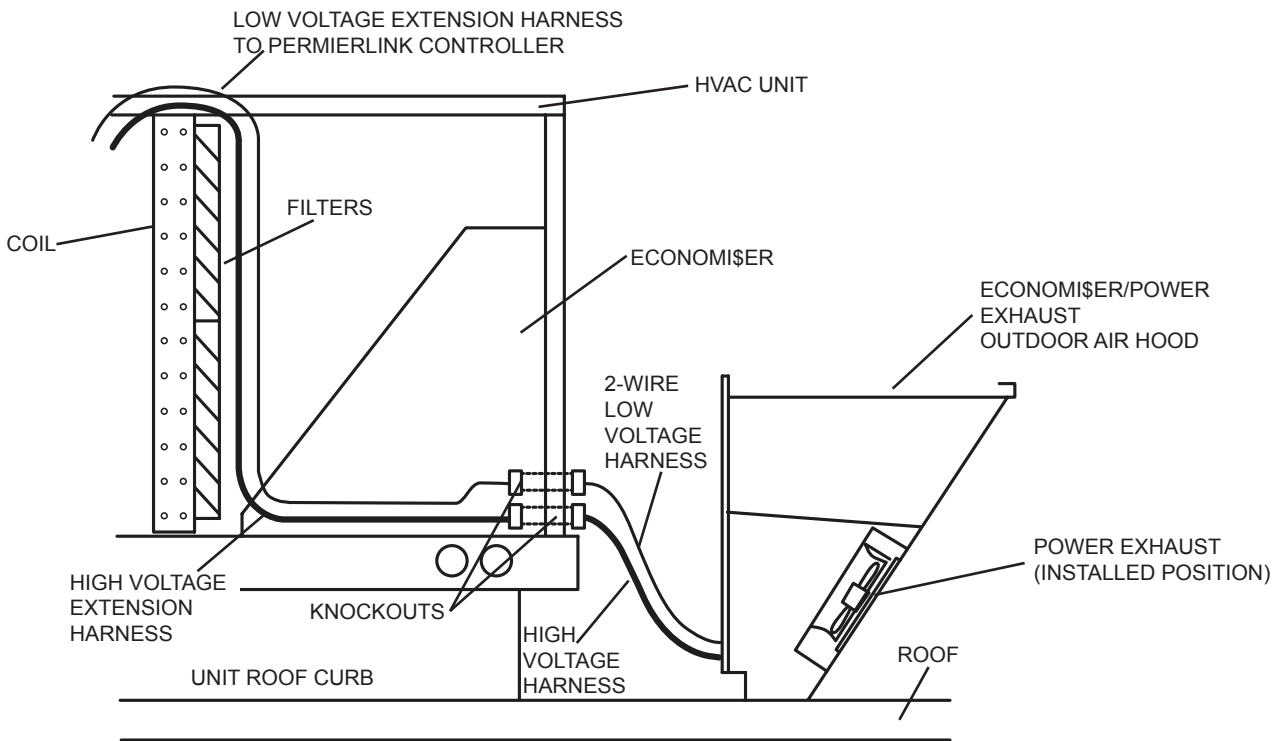

Figure 9 - Power Exhaust Harness Installation with EconoMiSer2 and PremierLink Controls
3. From the rear of the EconoMiSer2, connect the low voltage extension harness plug to the two-wire harness from the power exhaust. (See Fig. 9.)
4. Route the other end of the low voltage extension harness to the PremierLink controller. (See Fig. 9.)
7. From the rear of the EconoMiSer2, connect the long high voltage extension harness plug to the power exhaust harness. (See Fig. 9.)